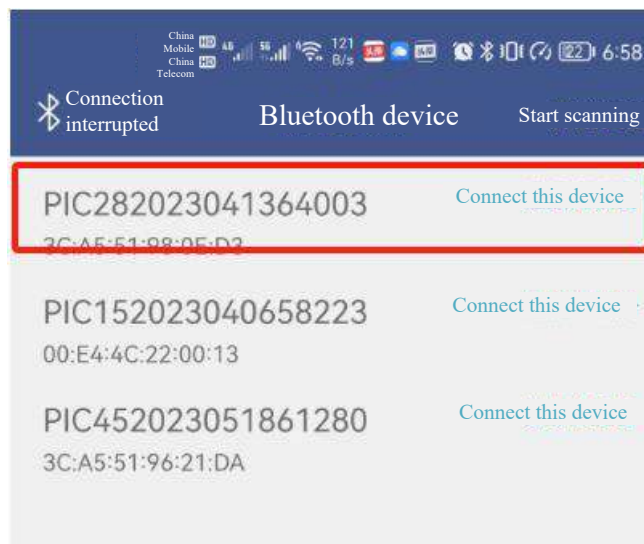

Figure 2.9
- ③ After the device is scanned, select the device to connect and click the [Connect Device] button, and then the mobile phone can communicate with the device in real time, as shown in Figure 2.9.